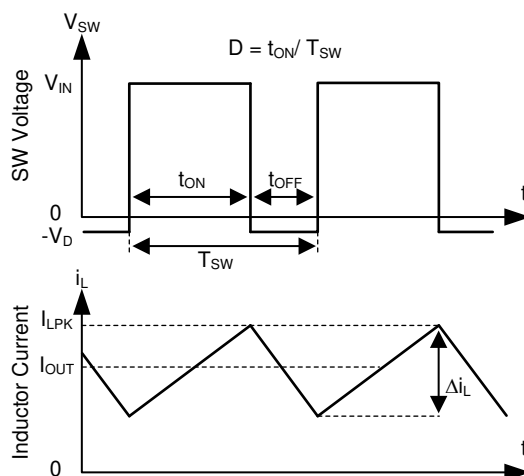

图 8-1. SW Node and Inductor Current Waveforms in Continuous Conduction Mode (CCM)
The following operating description of the LMR23630 refers to 节 8.2 and to the waveforms in 图 8-1. The LMR23630 is a step-down synchronous buck regulator with integrated high-side (HS) and low-side (LS) switches (synchronous rectifier). The LMR23630 supplies a regulated output voltage by turning on the HS and LS NMOS switches with controlled duty cycle. During high-side switch ON-time, the SW pin voltage swings up to approximately  $V_{IN}$ , and the inductor current  $i_L$  increase with linear slope  $(V_{IN} - V_{OUT}) / L$ . When the HS switch is turned off by the control logic, the LS switch is turned on after an anti-shoot-through dead time. Inductor current discharges through the LS switch with a slope of  $-V_{OUT} / L$ . The control parameter of a buck converter is defined as duty cycle  $D = t_{ON} / T_{SW}$ , where  $t_{ON}$  is the high-side switch ON-time and  $T_{SW}$  is the switching period. The regulator control loop maintains a constant output voltage by adjusting the duty cycle  $D$ . In an ideal buck converter, where losses are ignored,  $D$  is proportional to the output voltage and inversely proportional to the input voltage:  $D = V_{OUT} / V_{IN}$ .